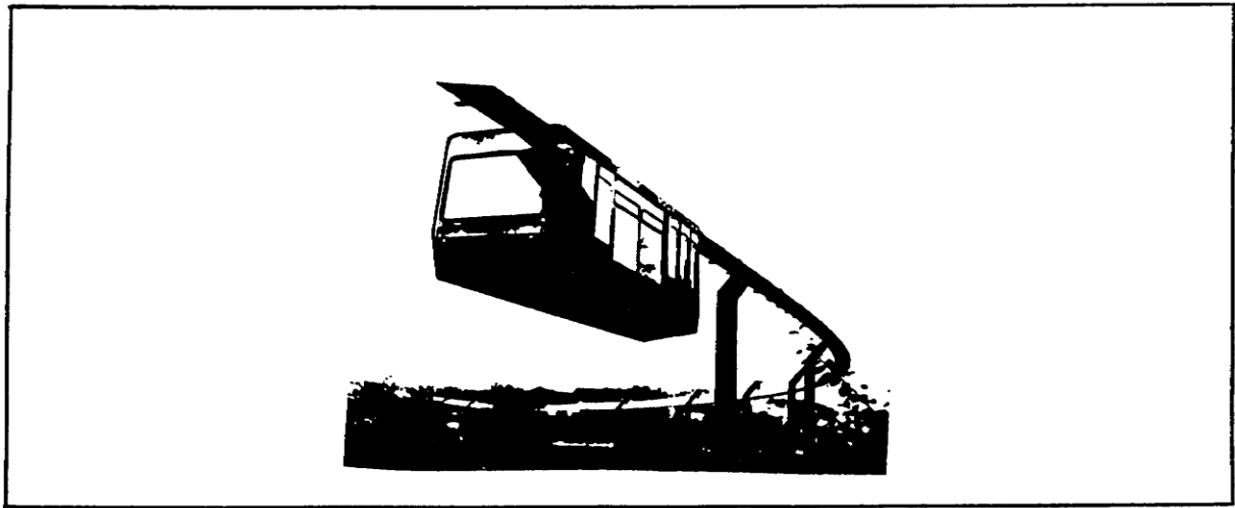

Figure 1-25. Suspended System.
e. Suspended system. In this system, cars are suspended from a boxgirder elevated guideway. The boxes are running within the beam and eight rubber rollers provide lateral guidance. Propulsion is by either two rotary DC motors per bogie or a single linear motor (Figure 1-25).